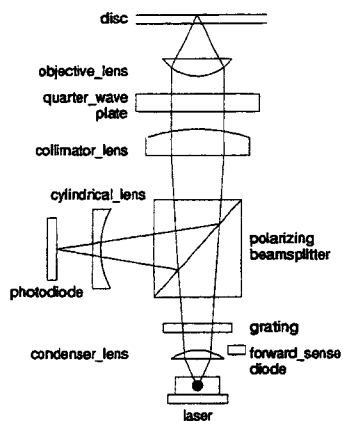

Figure 18
- laserdiode, condenser lens, forward sense diode, grating, polarizing beamsplitter, collimator lens, quarter wave plate, objective lens, cylindrical lens, photodiode. See figure 18.